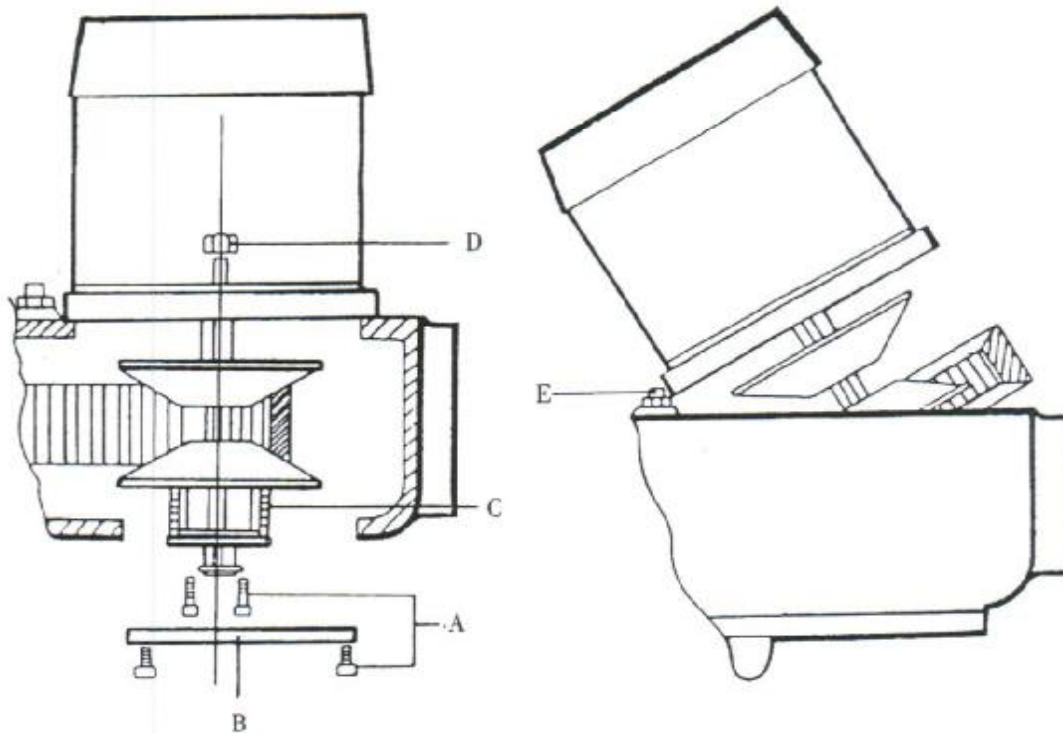

Figure 10. Removing the Motor (Side View)
REMOVING THE MOTOR(See Figure 10): Run the attachment to the bottom of either speed range and shut off the motor. This puts the vari - drive belt in the best position for disassembly.
2. Remove the cover (# 54 page 36) (B, Figure 10) at the lower end of the motor shaft. Use two cover screws (# 55 page 36) (A) to fasten the spring (# 44 page 38) (C) on the lower end of the motor shaft, to the lower motor vari-drive pulley (# 43 page 38). This will reduce the hazard of personal injury that is always present when a heavy spring is under compression. When the pulley, spring retainer (# 45 page 38) and spring are securely fastened as a single unit, crank the speed change handwheel (# 16 Figure 9) to top speed position.
3. Now remove the screws (# 9 page 38) (D) that fasten the motor to the belt housing the motor should be lifted slightly and pulled firmly away from the spindle and toward the rear of the belt housing. This will pull the Vari-drive belt (# 27 page 38) deeply into the spindle pulley (# 25 page 38), providing the slack needed to slip the belt over the motor pulley (# 43 page 38).
4. Now lift the motor high enough to rest the motor base GENTLY on the adjusting screw (# 16 page 38) (E) seen directly in front of the motor flange. The belt can now be slipped over the lower pulley and the motor removed from the housing.